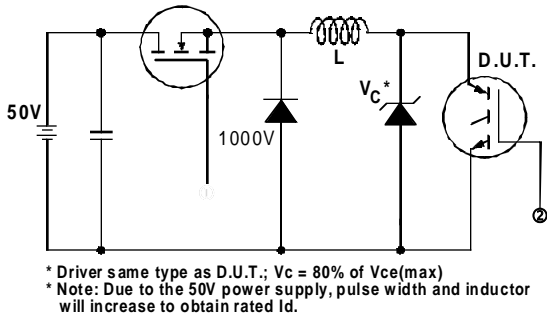

Fig. 13a - Clamped Inductive Load Test Circuit
② $V_{CC} = 80\%(V_{CES}), V_{GE} = 20V, L = 10\mu H, R_G = 10\Omega$, (See fig. 13a)
③ Repetitive rating; pulse width limited by maximum junction temperature.
④ Pulse width $\leq 80\mu s$; duty factor $\leq 0.1\%$.
⑤ Pulse width $5.0\mu s$, single shot.